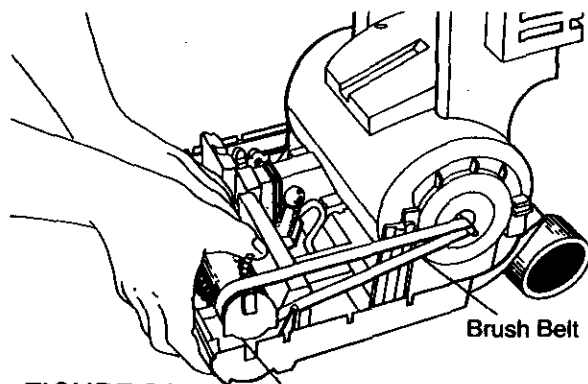

FIGURE 24
- Place one end of the new belt around the motor shaft, and the other end around the brush. Be sure the belt is not twisted. (Figure 24)
- Insert the left hand metal plate in the left hand base slot. (See previous Figure 24 for the correct positioning of the assembled metal plates.)